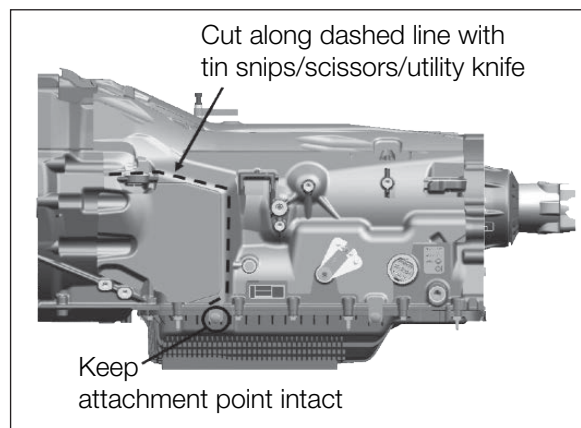

Figure 28
1. If NVH Cover is installed over PTO opening, cut away portion of the cover as described in Ford SVE Bulletin Q-300 (available at [www.fordbbas.com](http://www.fordbbas.com), **(Fig. 28)**). Exercise caution when removing cover. Avoid any damage or severing of transmission, wiring, and fluid lines.